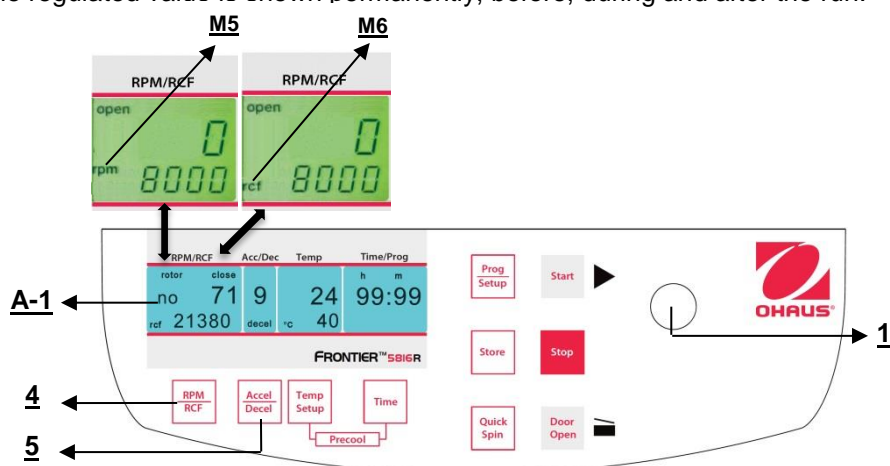

Figure. 16
This pre-selection is activated through the key **"RPM | RCF"** (4) (refer to figure 16 below). By pressing the key once the word **"rpm"** (M5) flashes. By pressing the key twice the pre-selection of the centrifugal forces can be selected. Then the flashing word **"rcf"** (M6) appears. You can set the desired values with the adjusting knob (1). In the display (A-1) the regulated value is shown permanently, before, during and after the run.